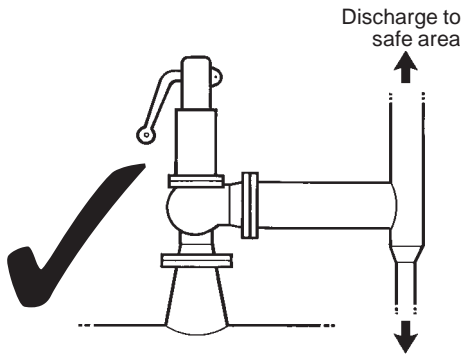

Fig 3
- 4.8 Where the outlet pipework is directed upwards a small bore drain should be provided at the lowest point. (Fig. 3) This drain should be taken to a place where any discharge will not create a hazard or inconvenience.